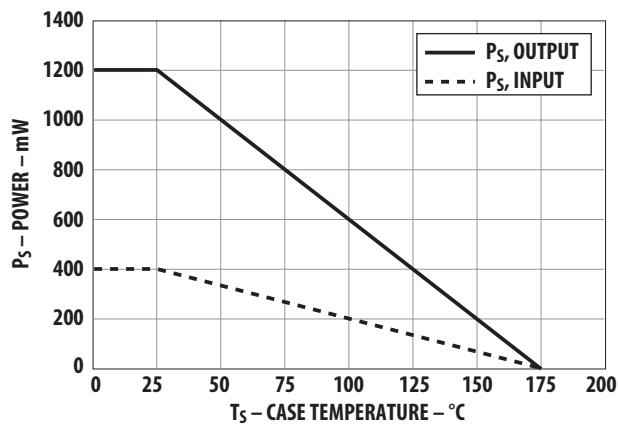

Figure 7. Dependence of safety limiting values on temperature.
– maximum values allowed in the event of a failure (also see Figure 7)